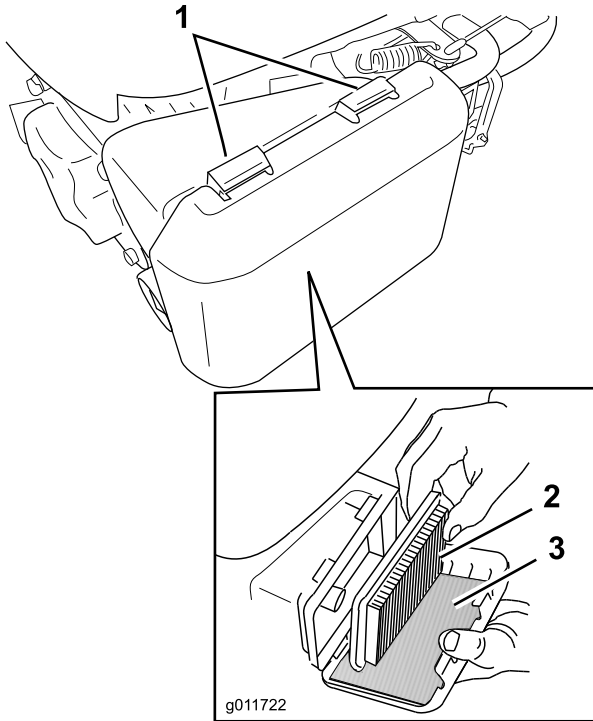

Figure 25
1. Press down on the latch tabs on top of the air cleaner cover (Figure 25).
3. Remove the paper air filter and the foam pre-filter (Figure 25).